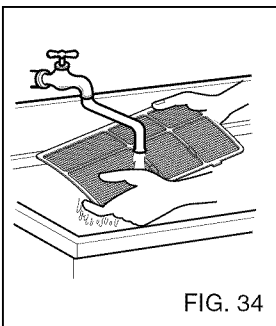

FIG. 34
- Wash the Air Filter under the faucet with warm water. Be sure to shake off all the water before replacing the filter. (FIG. 34)